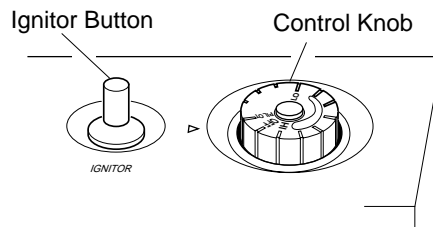

Figure 23 - Control Knob In The OFF Position
- Wait five (5) minutes to clear out any gas. Then smell for gas, including near the floor. If you smell gas, STOP! Follow "B" in the safety information in column 1. If you don't smell gas, go to the next step.
- Turn control knob counterclockwise  to the PILOT position. Press in control knob for five (5) seconds (see Figure 23).